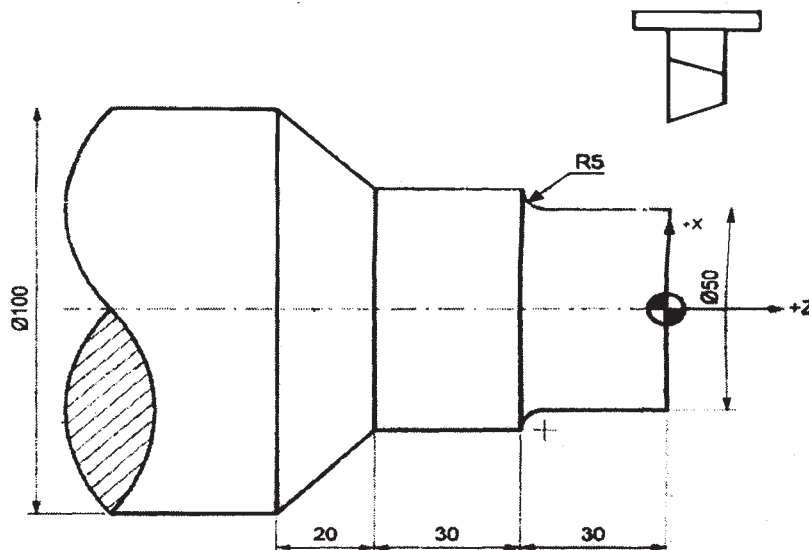

Fig. No. 2
- c) Write a part program for component shown in Figure No. 2 on CNC lathe machine. Use feed rate=0.2mm/rev, Speed=1500rpm. Assume the suitable data if necessary.